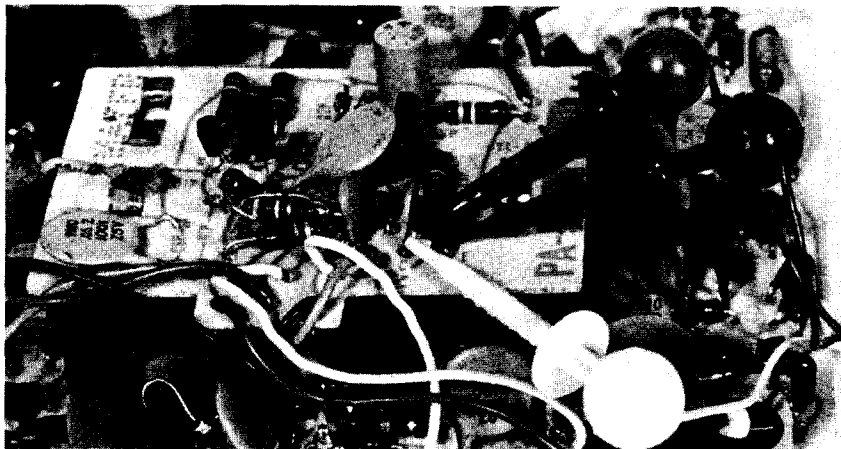

Fig. 6: Connections for Testing Transistor In-Circuit.
2. Connect each of the E-Z Hooks® to a lead of the transistor to be tested in- or out-of-circuit. In the case of small transistors with close leg spacing, use care to prevent shorting of the leads. (See Fig. 6.)